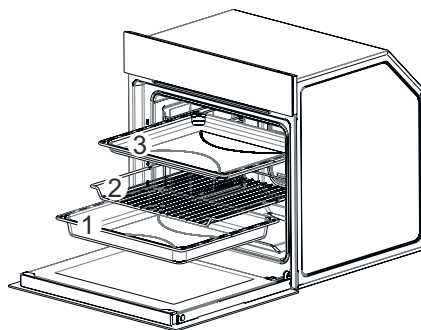

Fig. 28
- Remove the trays and the grill respectively (Fig. 28/ 1-2-3).